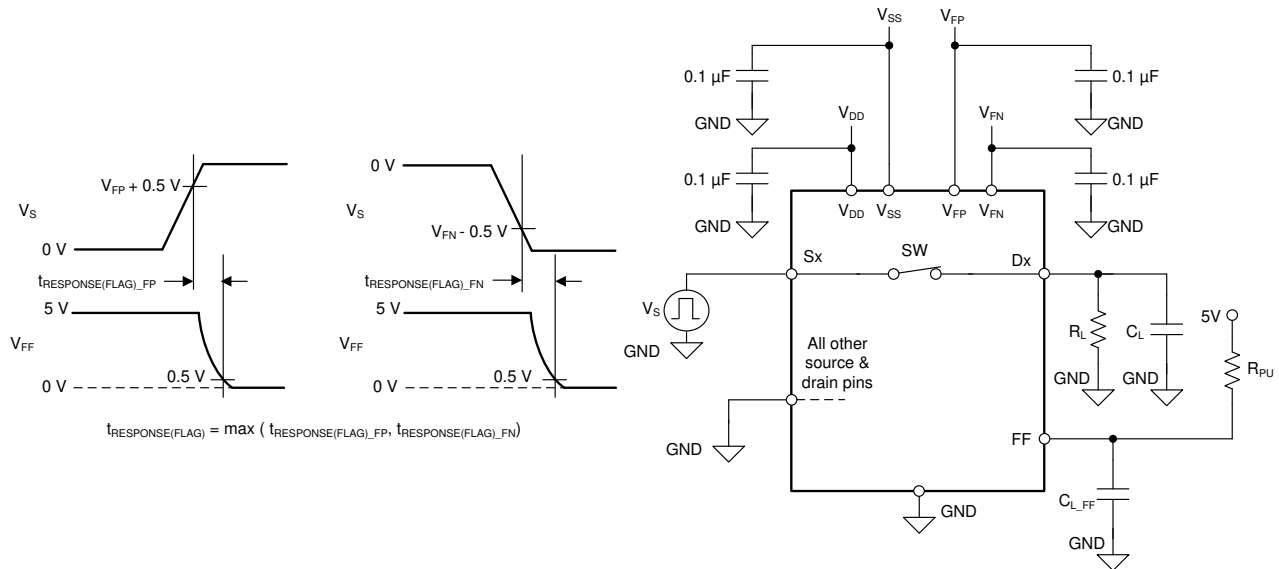

Figure 7-7. Fault Flag Response Time Measurement Setup
Fault flag response time ($t_{\text{RESPONSE(FLAG)}}$) measures the delay between the source voltage exceeding the fault supply voltage (V_{FP} or V_{FN}) by 0.5 V and the general fault flag (FF) pin to go below 10% of its original value. Figure 7-7 shows the setup used to measure $t_{\text{RESPONSE(FLAG)}}$.